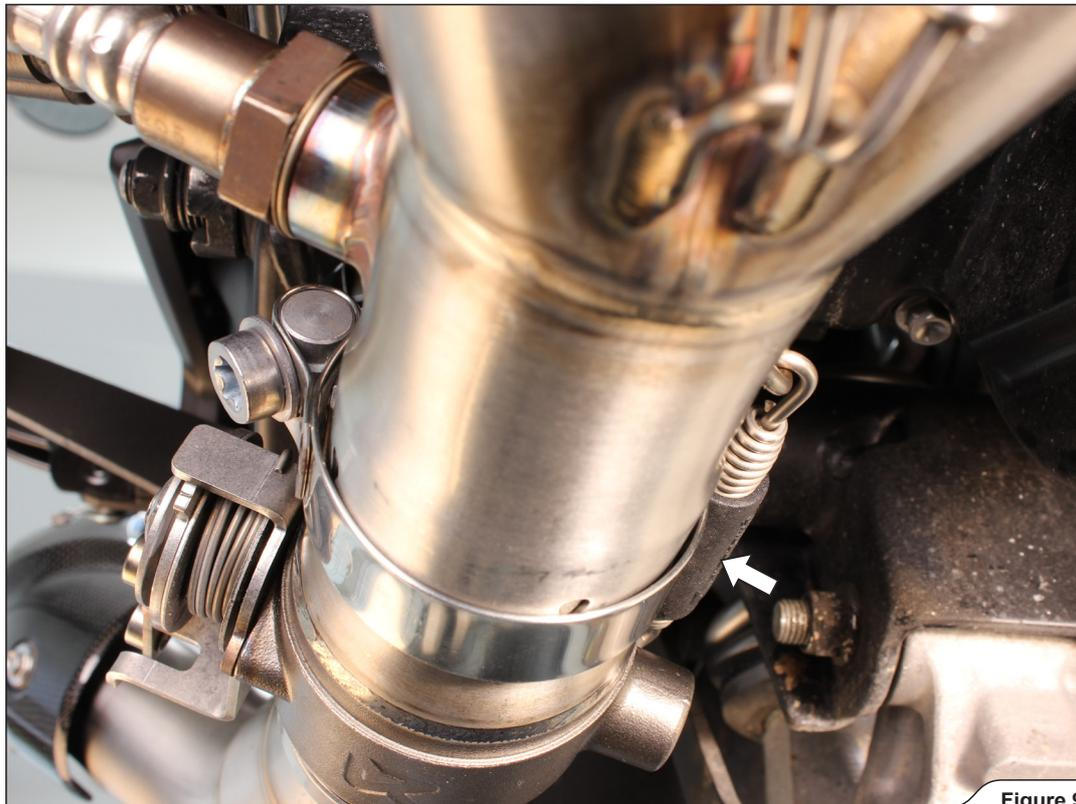

Figure 9
6. Slide the muffler into the collector's outlet and attach the spring (**Figure 9**). Reinstall the Akrapovič Slip-On exhaust system onto the motorcycle in reverse order, from the order in which it was removed; check the **Slip-On** exhaust system installation manual for details.